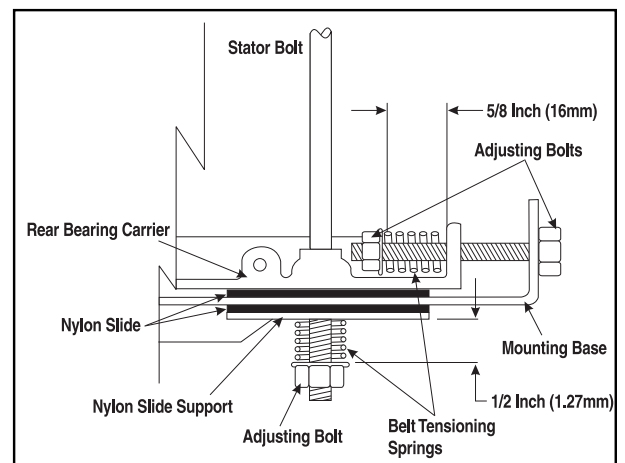

Figure 1 — Drive Belt Tension
- Drive belt tension is adjusted by means of two (2) BELT TENSIONING SPRINGS, CAPSCREWS, SPRING WASHER and FLANGED LOCK NUTS. Turning the CAPSCREWS moves the generator LOWER BEARING CARRIER axially on NYLON SLIDES, and changes the tension on the DRIVE BELT.
- To adjust belt tension, turn the two adjusting bolts until the compressed length of the springs is 5/8 inch (16mm). See Figures 1 and 2.